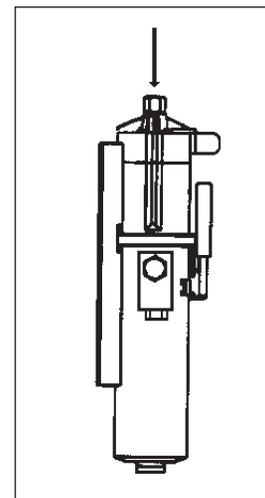

Figure 1
1. Hold pump on end as shown in Figure 1 and remove fill plug.